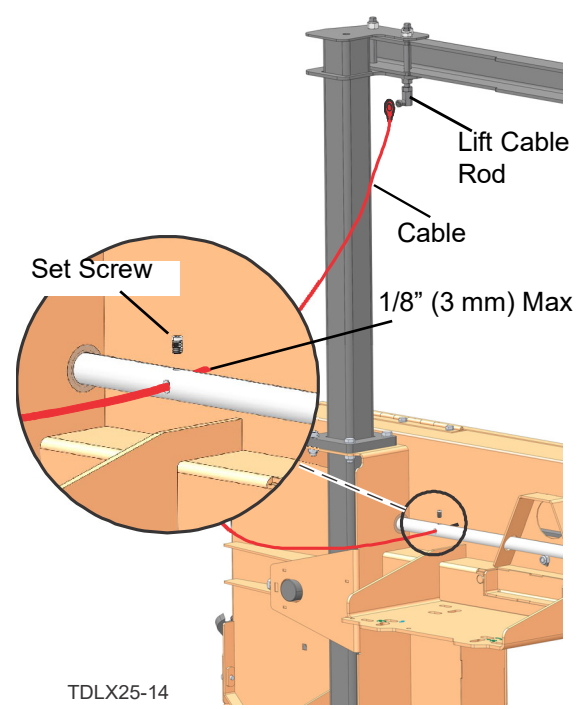

FIG. 3-31
2. Attach the lift cables from the hardware kit on the lift cable rod (attached earlier to the upright cross channel on the mast). See FIG. 3-10. and FIG.3-31
3. Back out the set screw from the crank shaft with a 3mm hex wrench and thread the lift cable through the hole in the crank shaft. See FIG. 3-31.